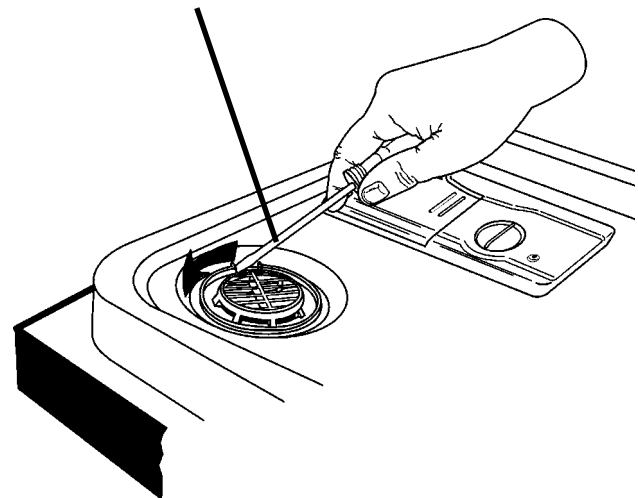

Fig. 3-6
1. Remove the six (6) screws securing the control panel to the door frame.
4. Using a flat bladed screwdriver in the slot provided at the bottom of the interior vent grille, turn the vent grille counterclockwise $\frac{1}{4}$ turn and remove the grille. (Fig. 3-6)